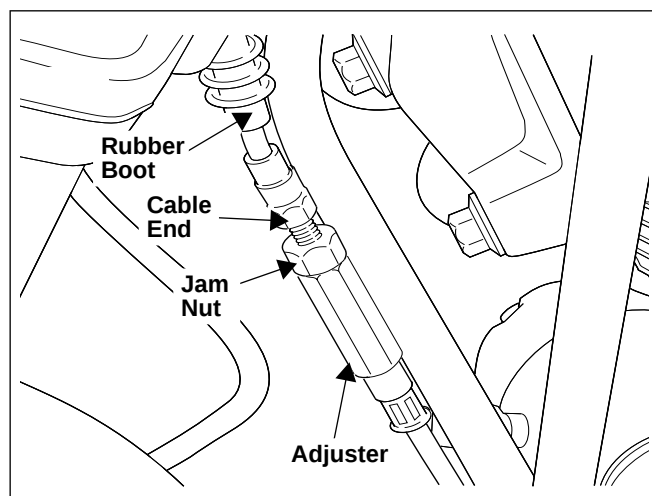

Figure 1-20. Clutch Cable Adjuster Mechanism
2. See Figure 1-20. Slide rubber boot upward to expose adjuster mechanism. Loosen jam nut from adjuster. Turn adjuster to shorten cable housing until there is a large amount of freeplay at clutch hand lever.
- b. See Figure 1-20. Set freeplay by turning adjuster.